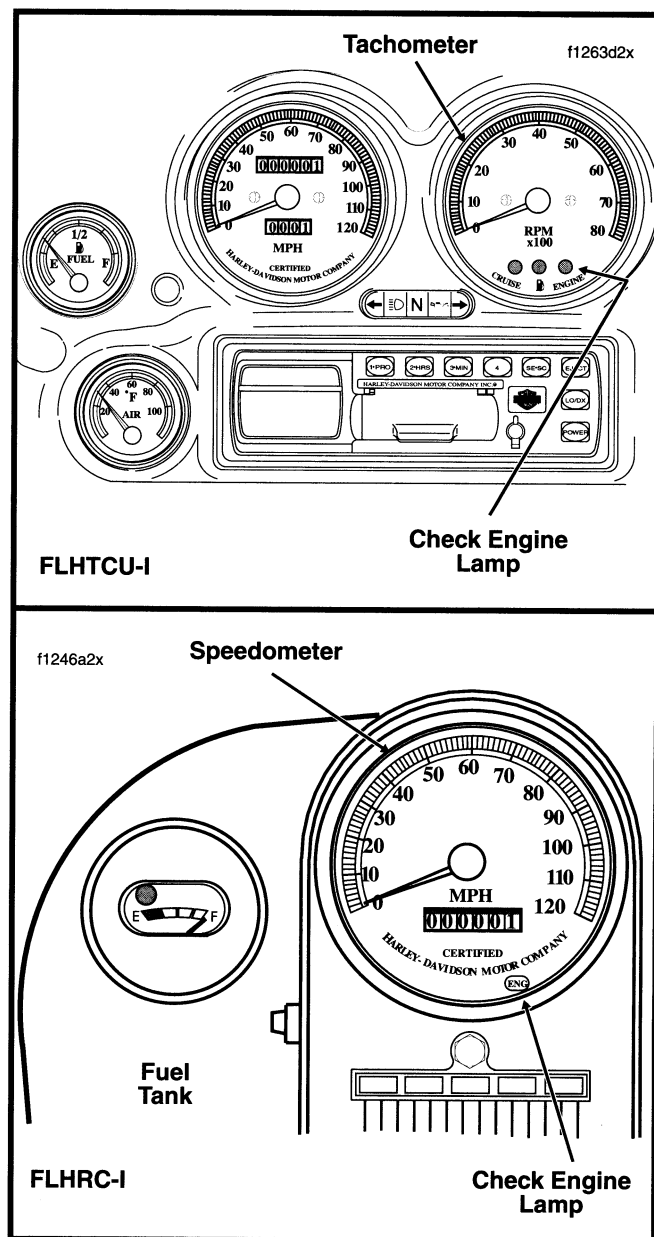

Figure C-6. Check Engine Lamp
- c. Turn the Ignition/Light Key Switch to IGNITION and wait approximately eight seconds for the Check Engine Lamp to start flashing. See Figure C-6.